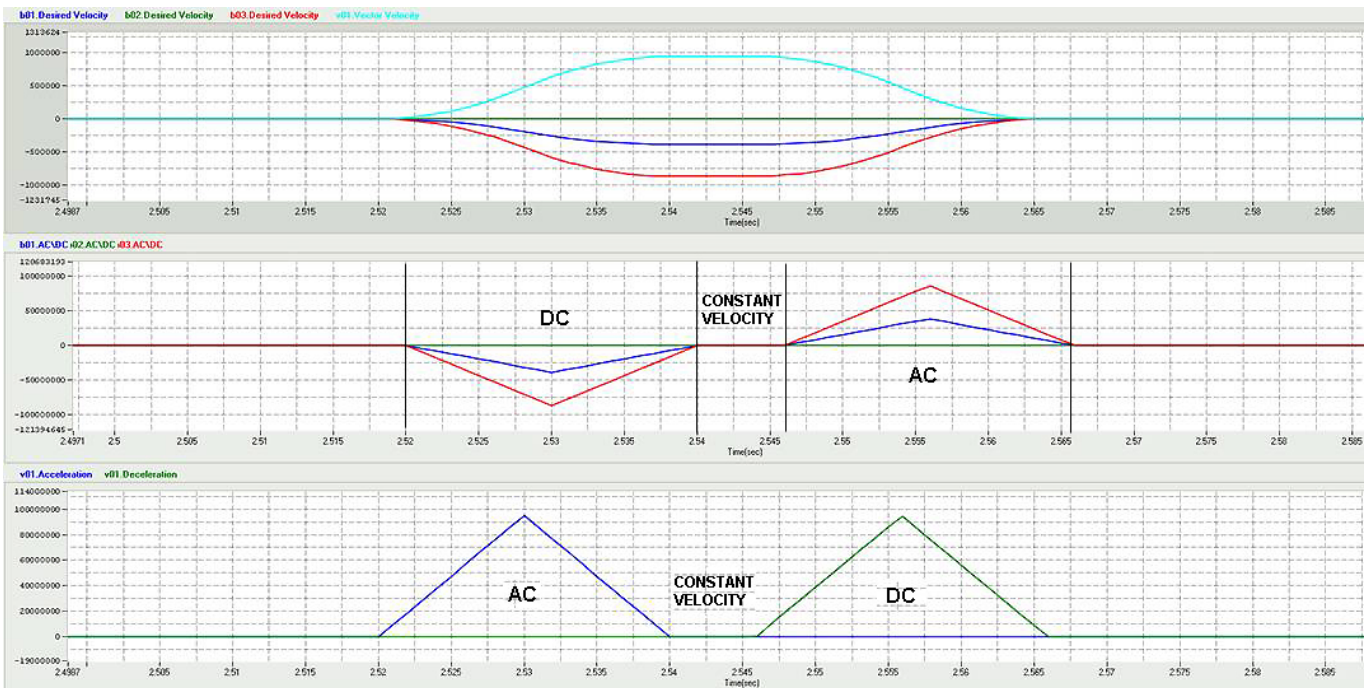

Figure 4-5 Example of Acceleration/Deceleration axis bits
By definition, both the Axis, Vector, Accelerating (AC), Decelerating (DC), and Constant Velocity, State Bits will be set according to the sign of the velocity derivative. Therefore, in reference to Figure 4-5, the example shows the changes in state between AC, DC, and at constant velocity.